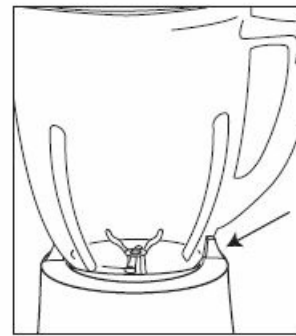

FIGURE 6
7. Line up tabs on Blender Base. Make sure the tab on the jar (near the handle) is in front of the tab on the Blender Base. (Figure 6) Blender Jar should now be seated into position.